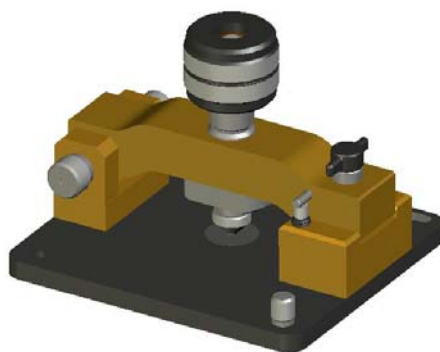

Fig 2: Angled View of Golden Gate™ Diamond ATR Top Plate 10563
- 1 MK II Golden Gate™ Diamond 45° ATR Top Plate (Fig 2)